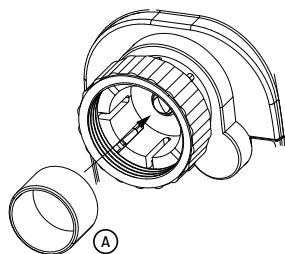

Fig. 2
- ▶ In these cases, the supplied supporting ring **A** (Fig. 2) should be inserted into the flange of the device before mounting it.